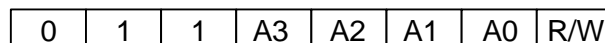

Figure 5: The I²C Compatible Device Address
After the start condition, the I²C-compatible master sends a 7-bit address followed by an eighth read (1) or write (0) bit. The eighth bit indicates the register address to/from which the data will be written/read (see Figure 5).